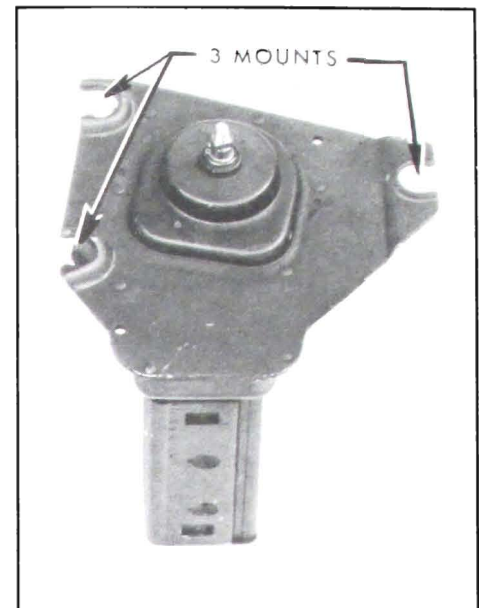

Figure 10-105—Single Speed Wiper
1. Remove washer pump drive cam as required (Figure 10-105). The cam is pressed on the shaft but can be wedged off by using two screwdrivers between cam and plate.